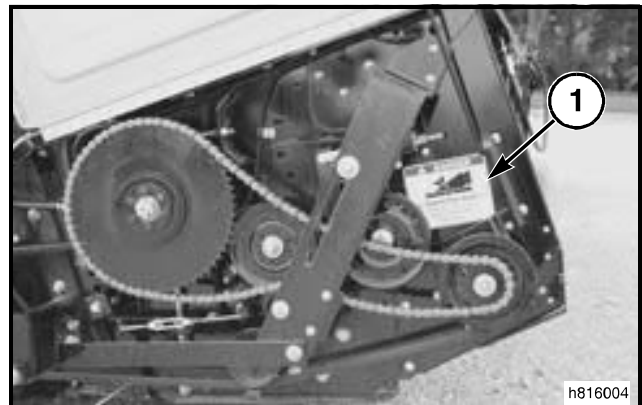

FIG. 17
FIGS. 17–18: Flex Cutter Bar Header: Two number 71350360 danger decals (1) are used. One on the Right Hand end of header to the rear of the conveyor bearing and one decal (1) used under drive shield on Left Hand end of header.